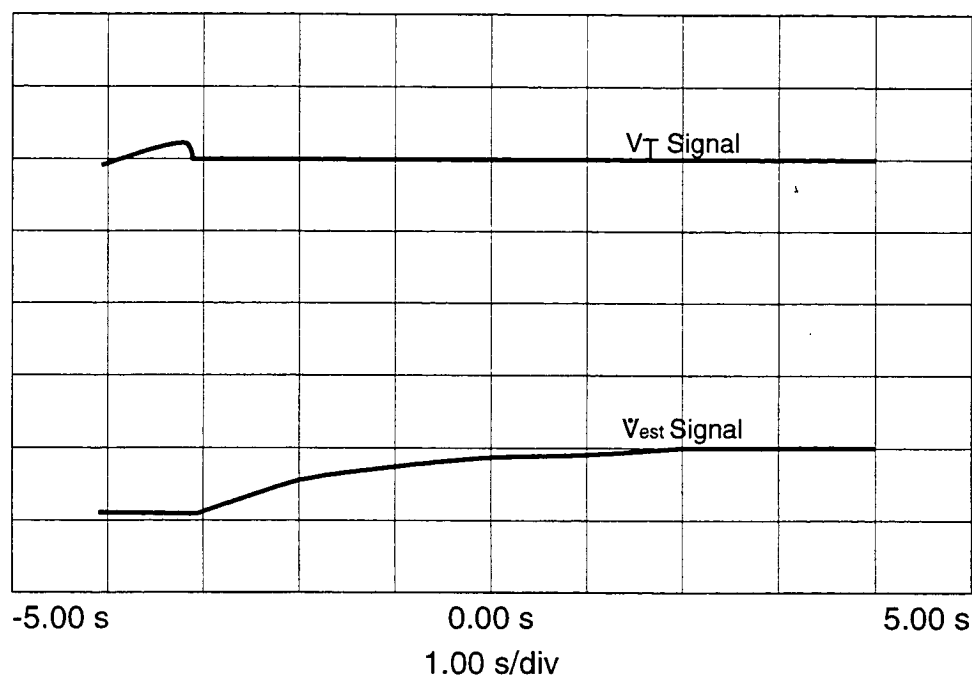

Figure 7-7. Spontaneous Mode, Ramp Up.
- Step 3 Block and hold the orifice closed and observe that the  $V_{est}$  signal starts to ramp toward 0 V after a short delay, and that the  $V_T$  signal also goes to 0 V. Be sure that  $V_{est}$  is at 0 V before continuing. See Figure 7-7.